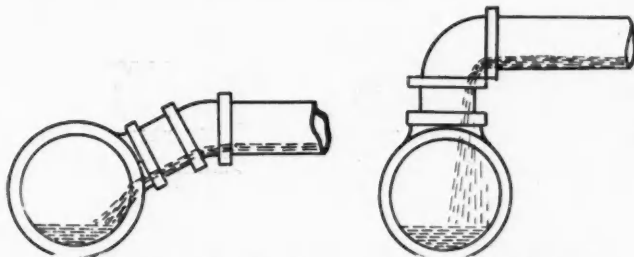

Fig. 2. Illustrating How Steam is Saturated by 90-Degree Connection to Main
Each branch connection may be taken from the main by either of two methods—namely, (1) by using a nipple and 90-degree elbow, and (2) by using a nipple and 45-degree elbow. The first method is preferred for the reason that in all low-pressure mains the steam flows along the top, the condensation along the bottom. With the 45-degree connection, the condensation from each branch enters the main without saturating the steam, while with the use of the 90-degree connection this water of condensation flows into the main on top of the steam supply, saturating it and thereby greatly reducing its efficiency. This difference is very clearly explained by Fig. 2.